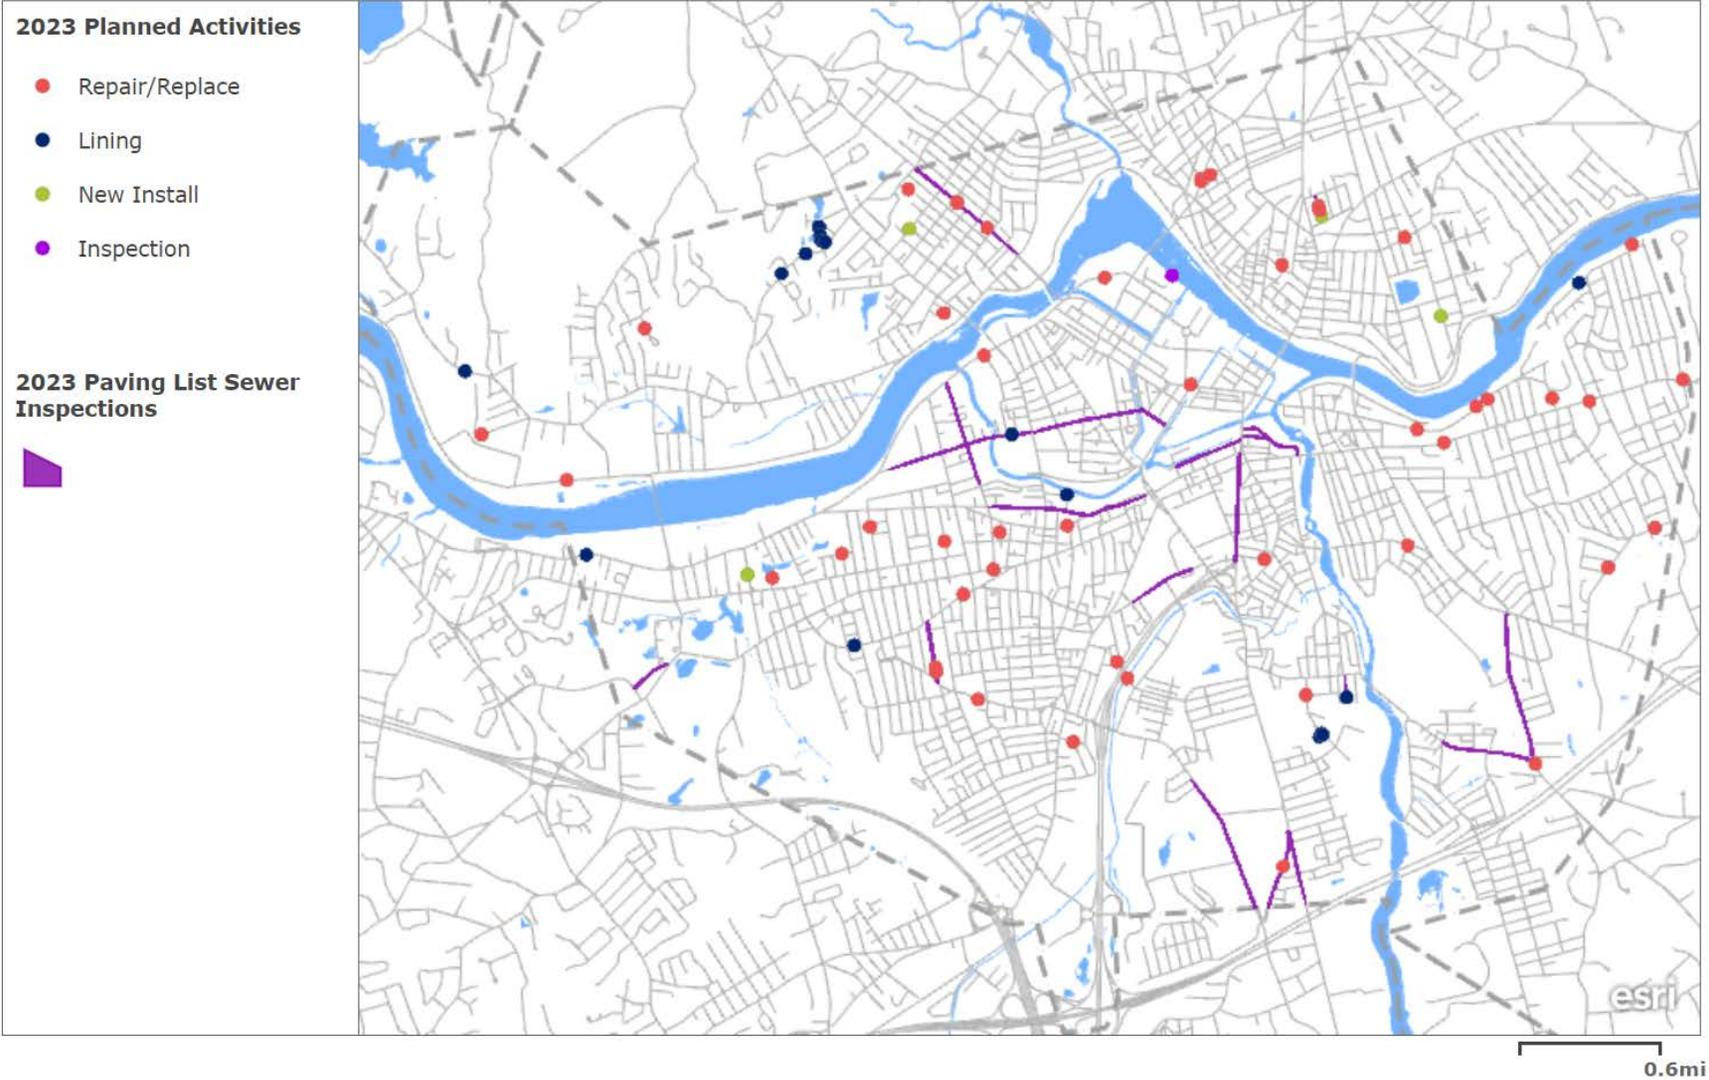

Figure 4. 2023 Planned CMOM Investigation/Action Areas
*Figure 4* shows a map showing areas identified for planned investigations, collection system maintenance, repairs and lining projects to be completed in 2023.